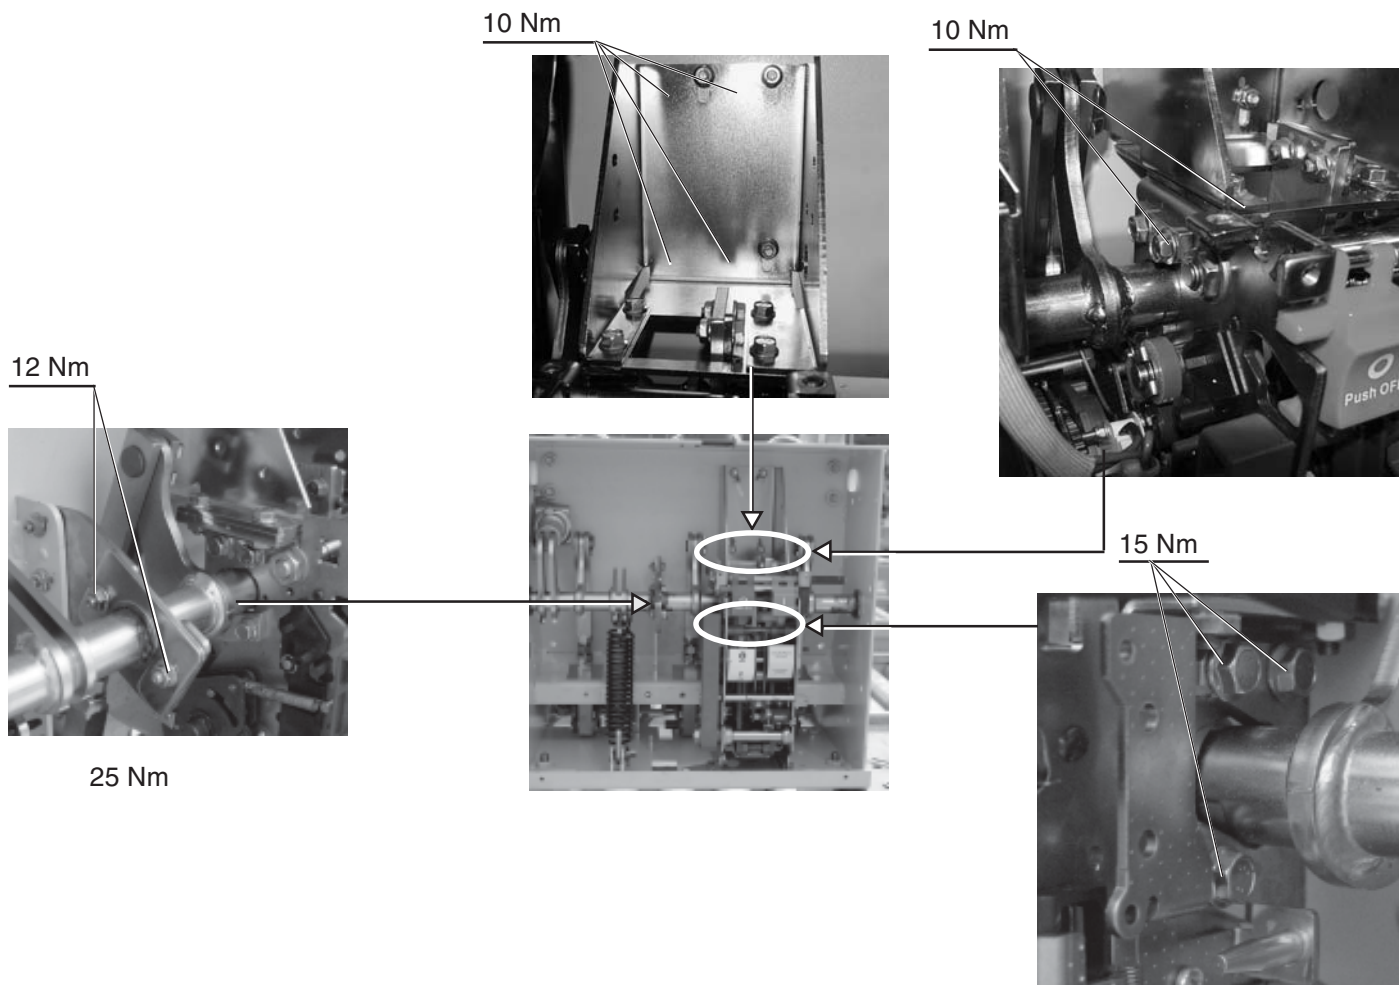

Fig. 11
- The screws and nuts are tightened in the factory and correct tightening is marked with a coloured mark. No further tightening operations are foreseen during the operating life of the circuit-breaker. However, following any interventions, should it be necessary to retighten the screws or nuts, it is recommended to keep to the values indicated in fig. 11.